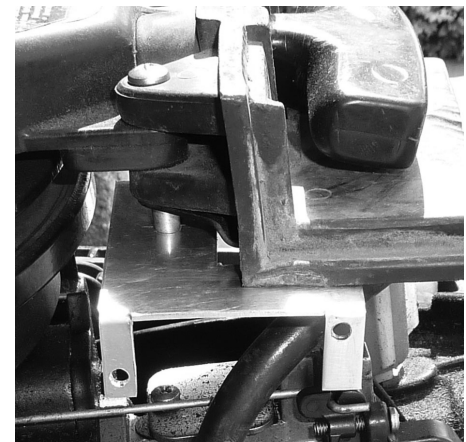

Figure 3
- Fig. 3 - Mount servo bracket to motor using supplied bolt, locking nut and spacer.